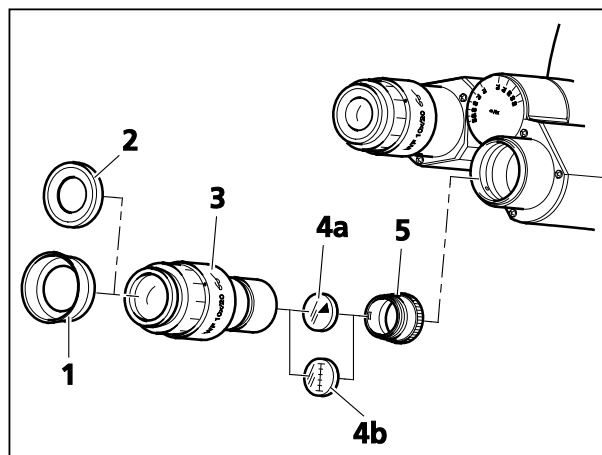

Fig. 16 Inserting the eyepiece pointer or eyepiece micrometer
The eyepieces (Fig. 16/3) can be equipped with fold-over rubber eyecups (Fig. 16/1: pulled out; Fig. 16/2: folded over). The eyecups are supplied together with the eyepieces, but are not yet mounted.
- Unscrew the stop (Fig. 16/5) by hand from the eyepiece.
- Insert the eyepiece pointer (Fig. 16/4a) or the eyepiece micrometer (Fig. 16/4b) into the eyepiece (with the coated side facing your eyes).
- Turn the focusing ring of the eyepiece (Fig. 16/3) to focus on the wedge-shaped figure of the eyepiece pointer.